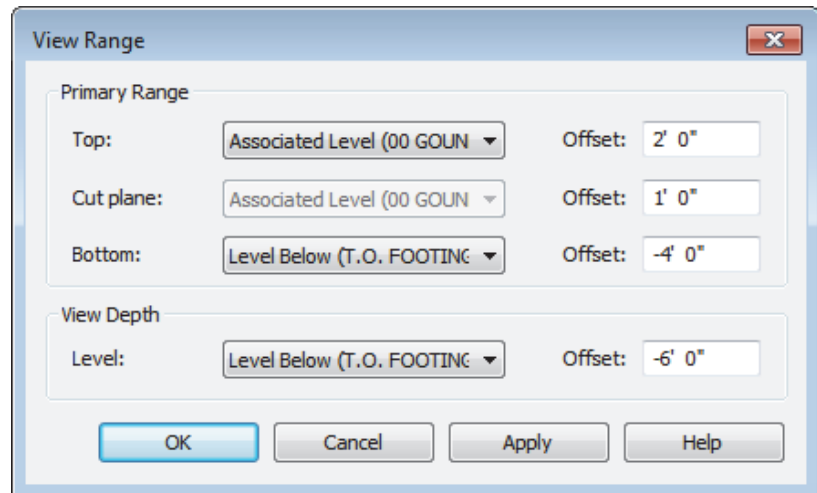

Figure 7–25
5. In the View Range dialog box, set the *Primary Range: Bottom* and the *View Depth* to **Level Below (T.O.Footing)**, as shown in Figure 7–25. This enables you to see both the steel columns at the 00 GROUND FLOOR level, and the footings being added.